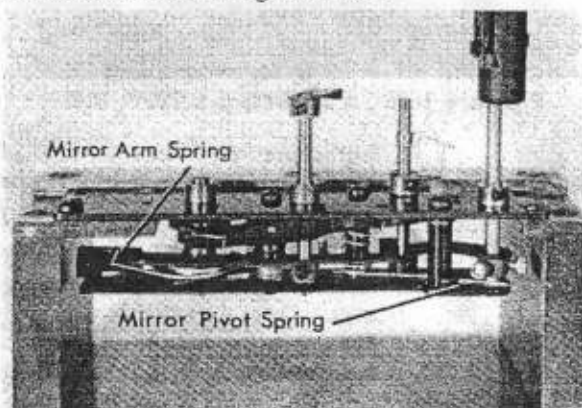

Figure 1-10D. SPRING POSITIONING
dd. Place mirror arm assembly in position. Curved end of mirror arm spring must locate against rear of long shoulder of arm assembly as shown in figure 1-10D.
ee. Pull bent (not curved) ends of both mirror pivot springs toward rear edge of upper and lower plates. Slide mirror mount assembly through hub (24), upper plate, mirror arm assembly hub, and lower plate. Release springs. They should position as shown in figure 1-10D.